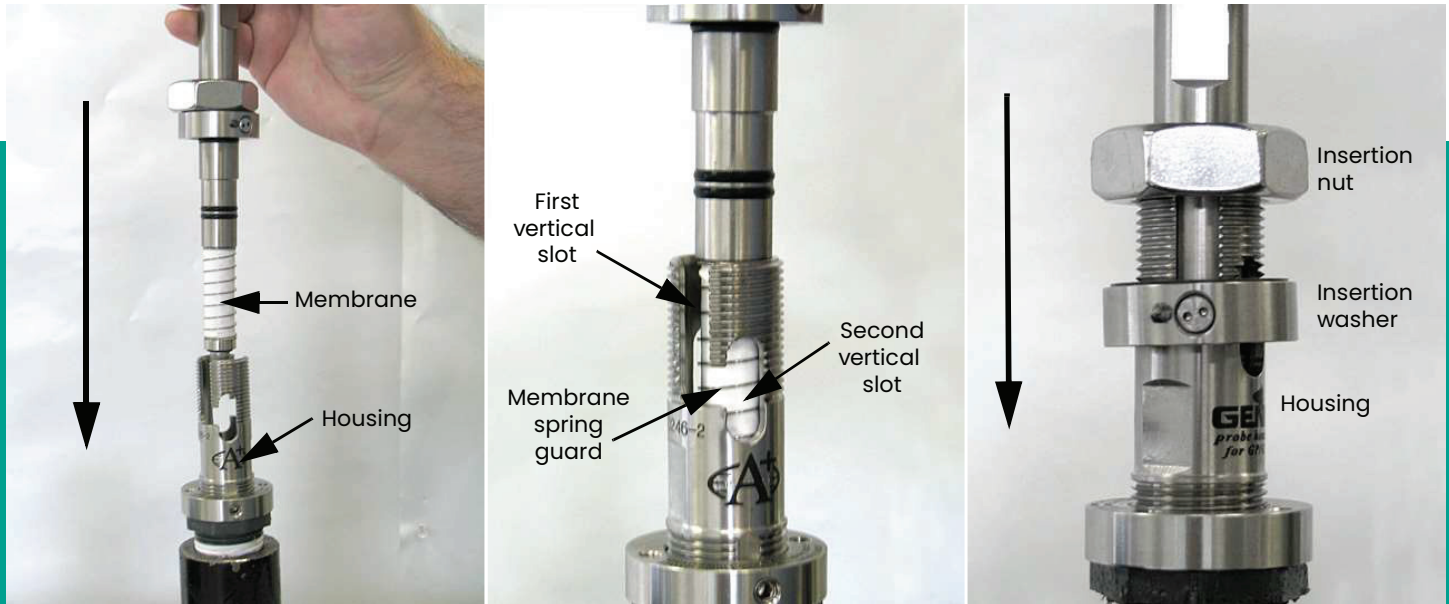

Figure 18: Installing the probe
3. Refer to *Figure 18* below and position the membrane end of the probe above the installed housing. Slowly lower the probe into the housing. Avoid membrane contact with the upper section of the housing. **Do not apply downward force.** The probe should slide easily into the housing. Lower the probe only enough to thread the insertion nut one complete turn of thread engagement.